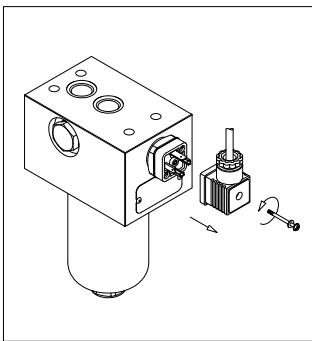

fig. 6
- (Fig. 6) Remove the connector of the differential indicator by unfastening the central screw (only for electrical indicators)
- For the mounting/dismounting of the indicator, please refer to the paragraph “Clogging indicator replacement” above (Fig. 6÷9)